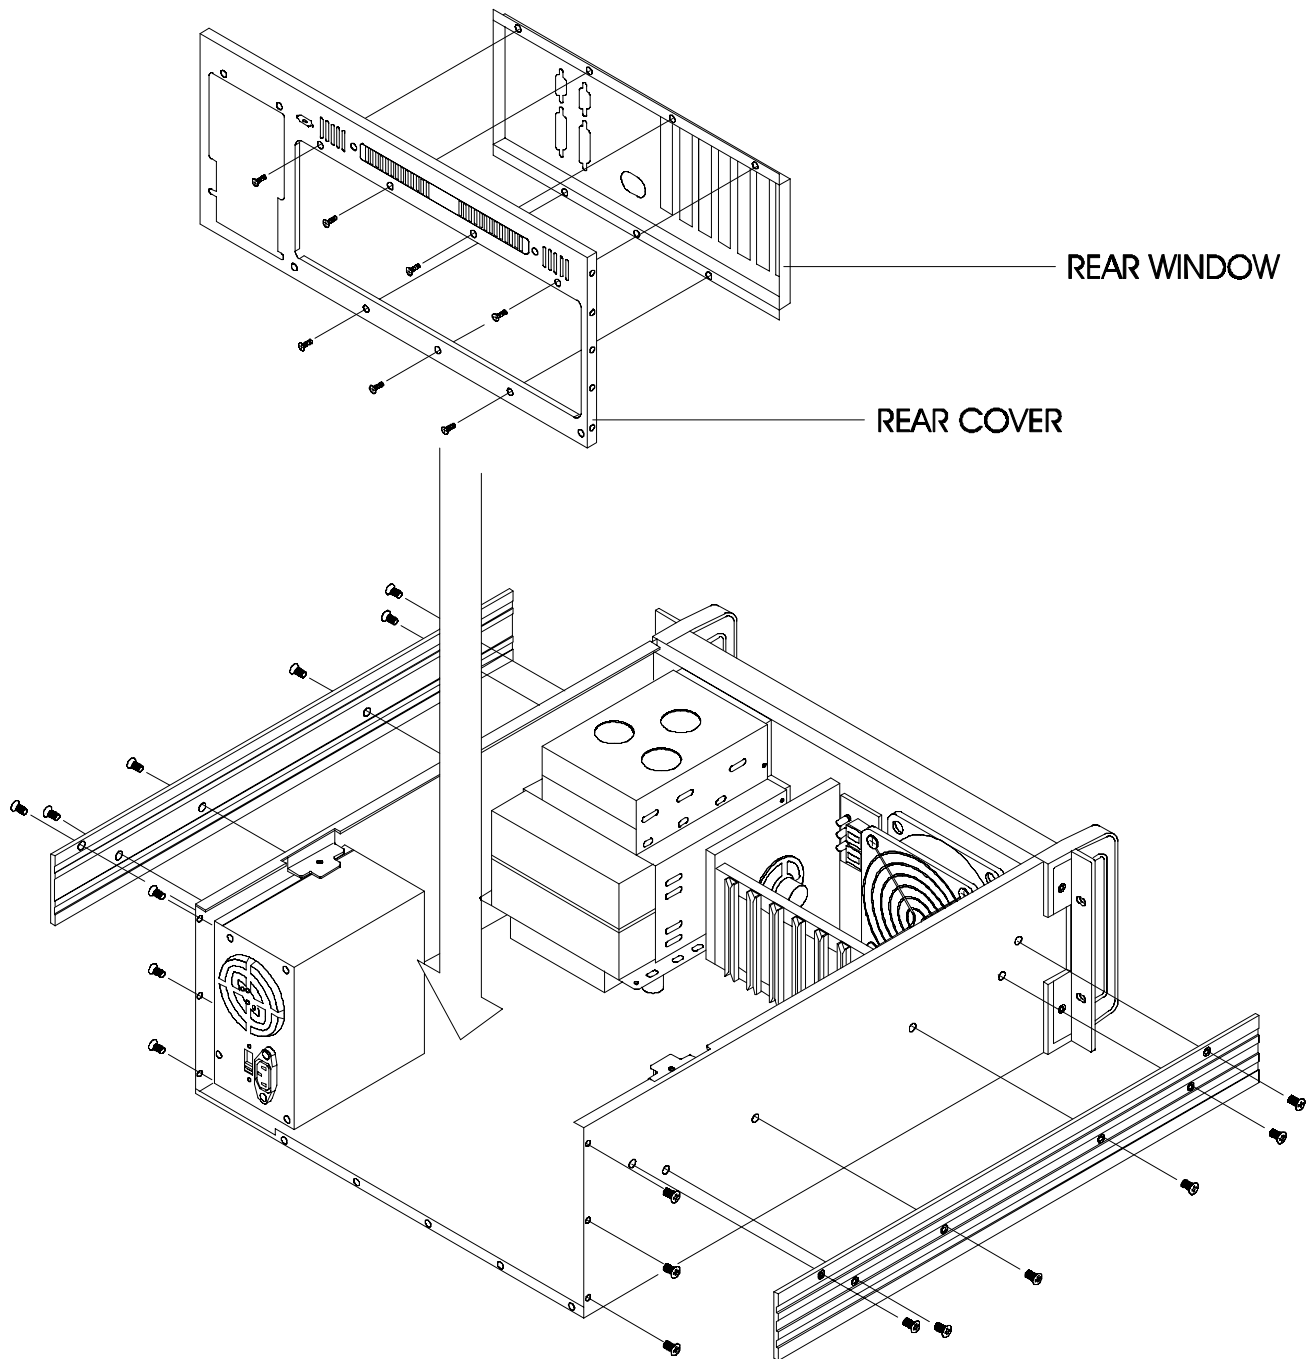

Figure A-4: Rear window of IPC-610 for standard AT motherboard
2. To change the rear window for standard AT motherboards, see Fig. A-4.